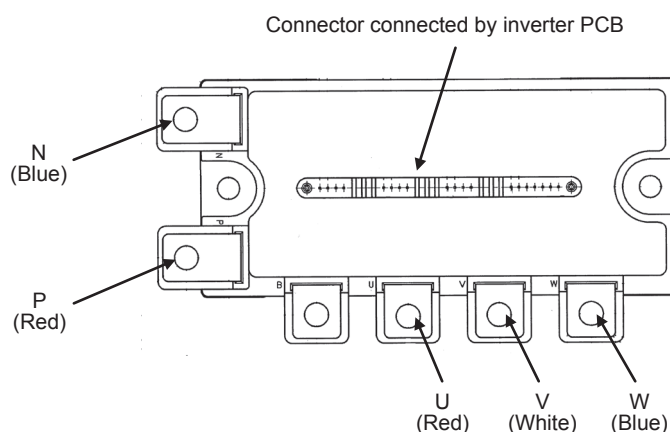

Fig.1 Parts arrangement view
- Disconnect with the wire (U, V, W, P, N) to the transistor module. (Refer to Fig.1 Parts arrangement view)